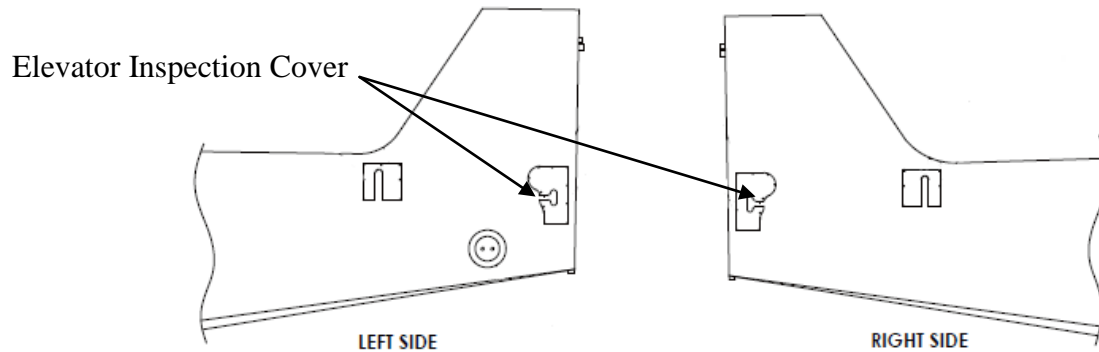

Figure 1 – Elevator Inspection Covers
1. Remove the elevator inspection covers, see Figure 1.